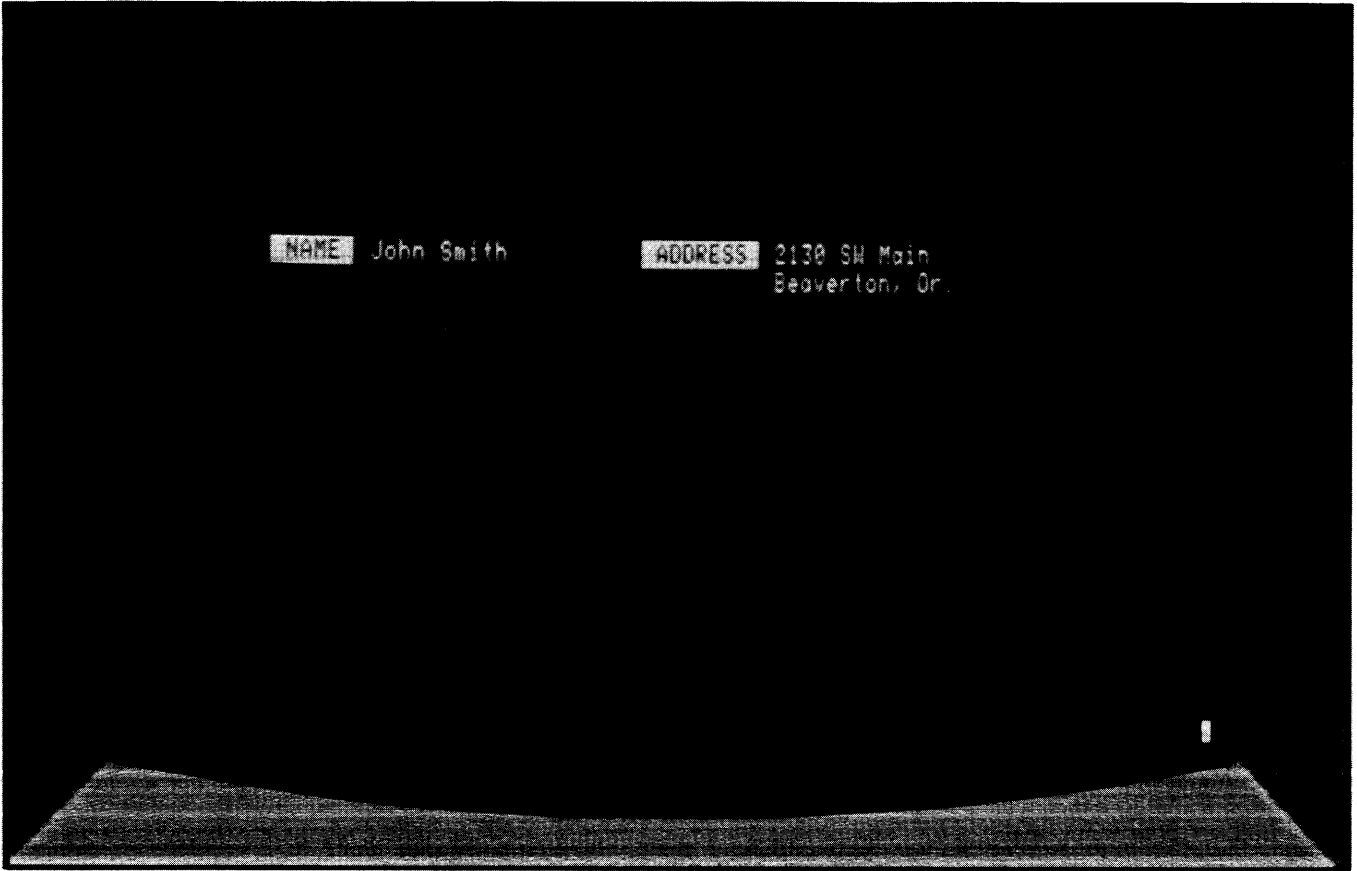

Fig. 2-1. A Formatted Display.
**Sample Input String.** Fig. 2-1 shows a formatted display. The input string as seen by the computer is: